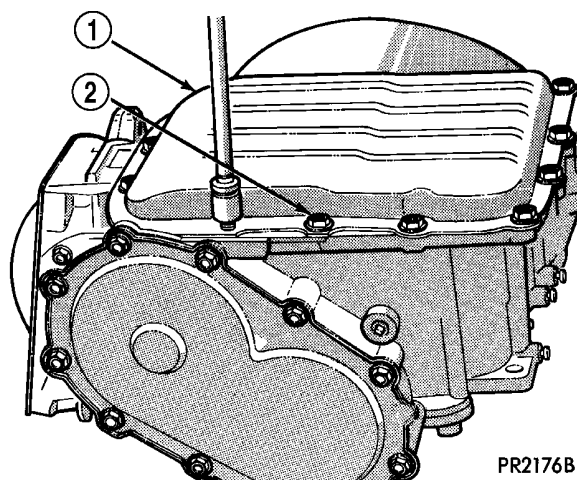

Fig. 82 Transaxle Oil Pan Bolts
(42) Install an 1/8" bead of Mopar® Silicone Rubber Adhesive Sealant to the transaxle oil pan (Fig. 81). Install oil pan to case and immediately install and torque oil pan-to-case bolts (Fig. 82) to 19 N·m (165 in. lbs.) torque.